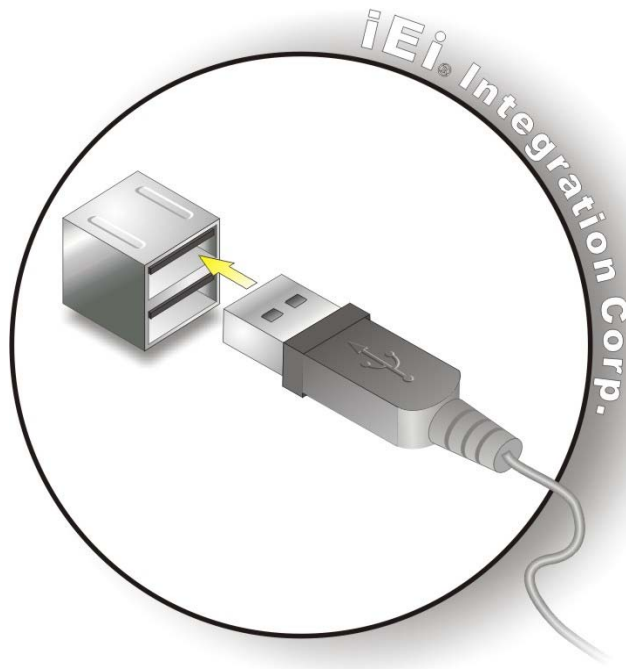

Figure 3-31: USB Device Connection
Step 2: Align the connectors. Align the USB device connector with one of the connectors. See Figure 3-31.